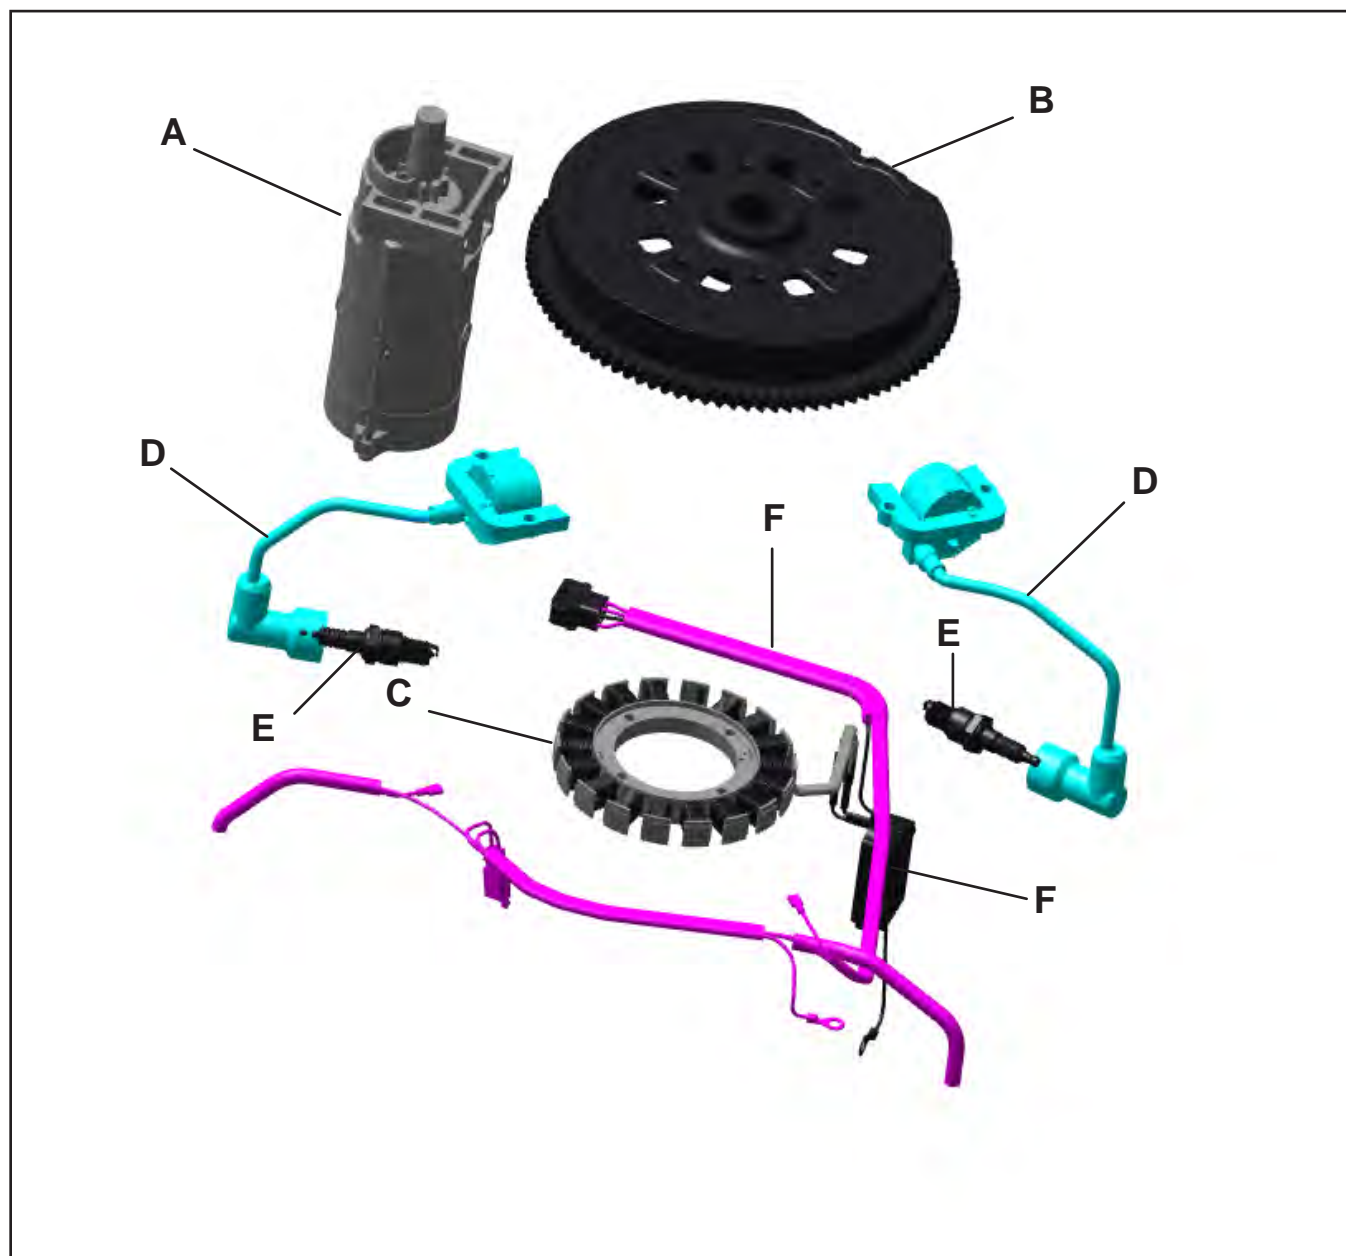

Figure 1
Ignition Coils: The ignition coils create high voltage spark for the combustion ignition. They are mounted under the blower shroud on top of each cylinder, next to the flywheel. They are interchangeable for either cylinder (Figure 1).
**Introduction:** The charging system components include the stator, voltage regulator with the wiring harness, and flywheel (Figure 1).